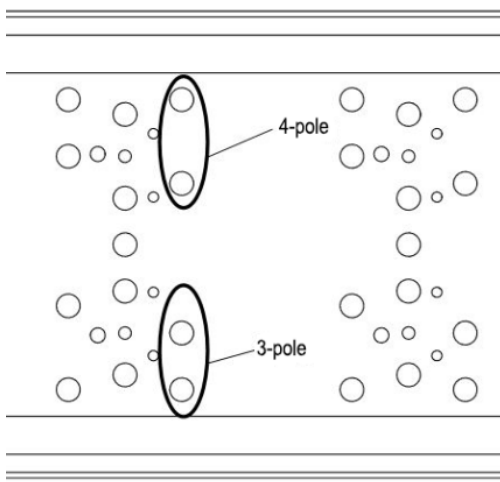
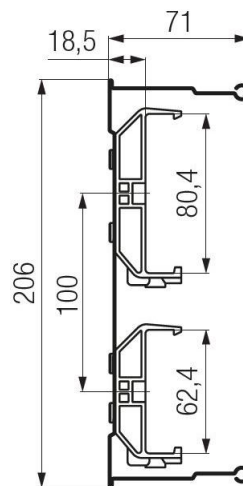
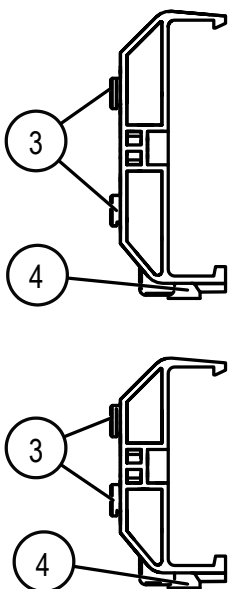
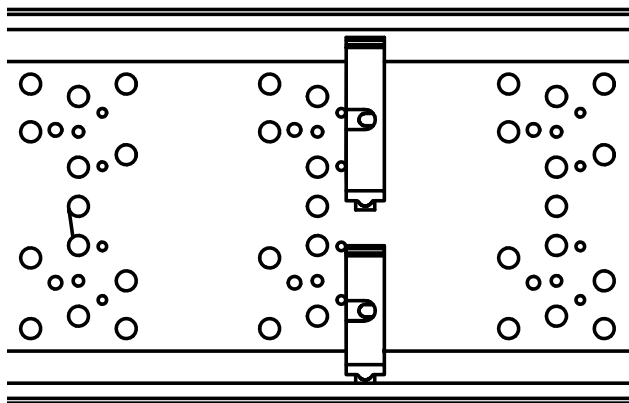

Fig. 67: Series of holes for 7-pole hanger clamp 0831 in ProShell 206 Support Profile System
Fig. 68: Dimensions of 7-pole hanger clamp 0831 in ProShell 206
Fig. 69: Locking pin (4) and pin (3)
Fig. 72: 7-pole hanger clamp 0831
The special rows of holes in the ProShell 206 support profile rails allow the hanger clamps to be easily hung (see Fig. 67). For seven or eight poles, two different hanger clamps (e.g. 3-pole with 4-pole or 5-pole with 3-pole or 4-pole with 4-pole) are combined with one another (see Fig. 68 to Fig. 69).
1. Hook the locking pin (4) of the hanger clamp onto the lower frame of the ProShell support profile so that by screwing in the hanger clamp, the two pins (3) are sunk into the holes of the ProShell support profile (see Fig. 69 to Fig. 72). Install the 4-pole hanger clamp in the upper part of the ProShell support profile in the same way as the 3-pole hanger clamp